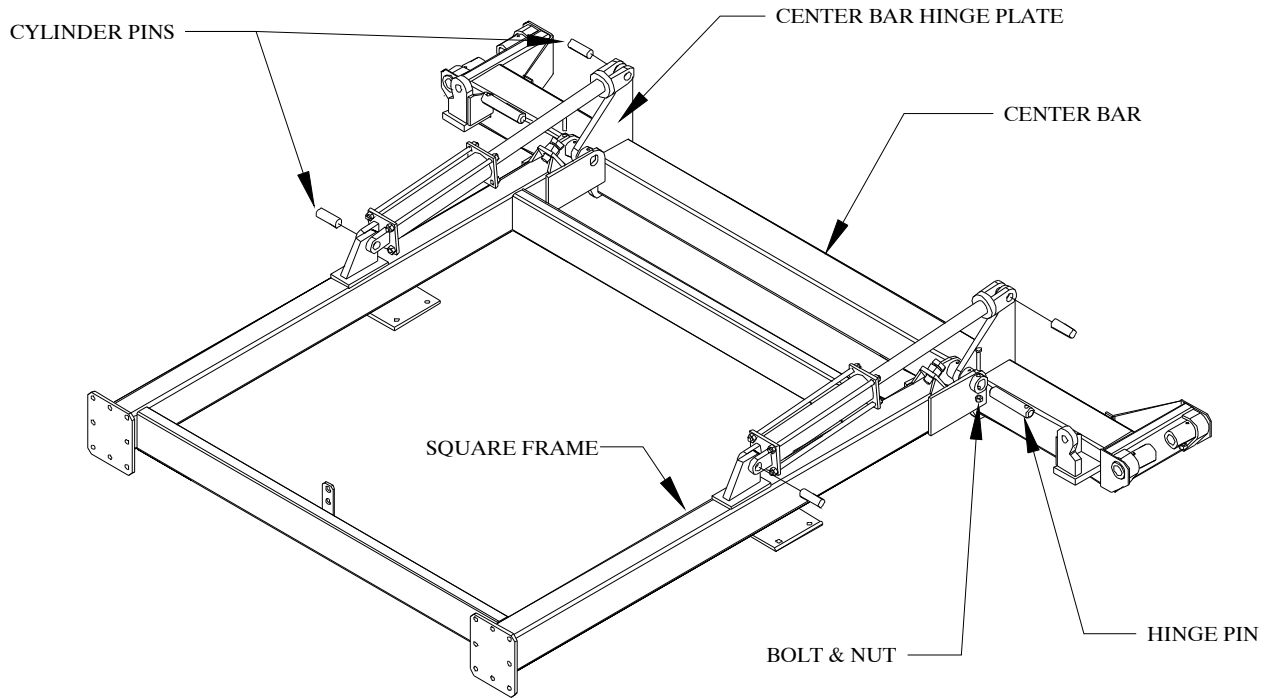

Figure 5
1. Attach the center bar to the square frame. Refer to Figure 5. Use the 1 ½" x 7 1/16" hinge pins, ½" x 3" grade 8 bolts, and locking hex nuts.